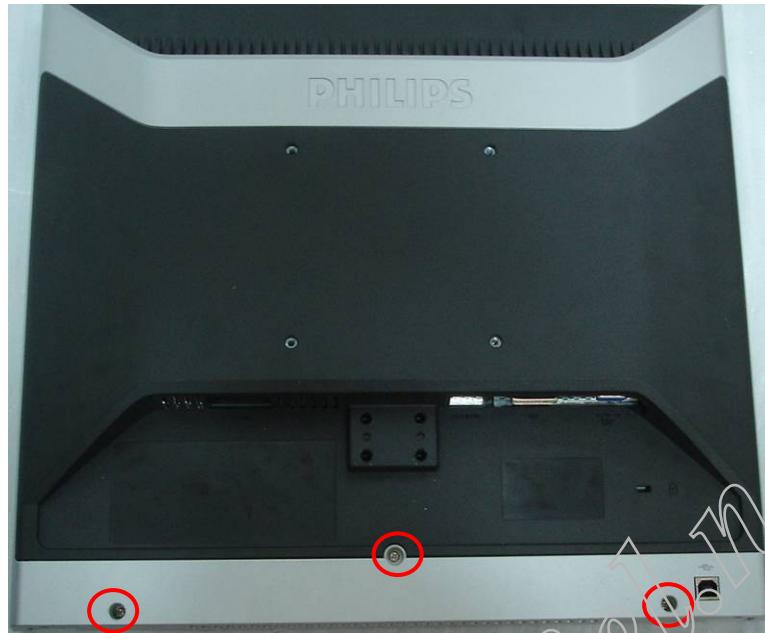

Fig.5
Step 5: Pull out the stand cover emphatically as Fig 5.
**5. Remove back cover as Fig.5**
Remove the three screws to remove the back cover as Fig.5.